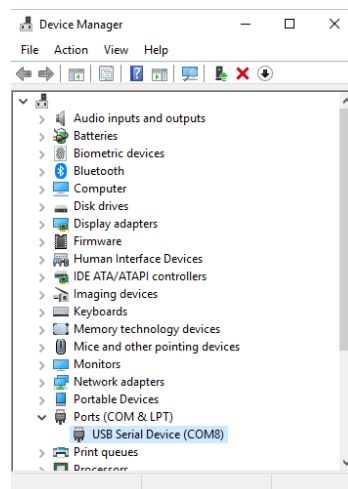

Figure 2. The ZMID-COMBOARD Appears as a Serial Device
5. After successful driver installation, the device appears in the Device Manager under “Ports” as a “USB Serial Device.” See Figure 2.